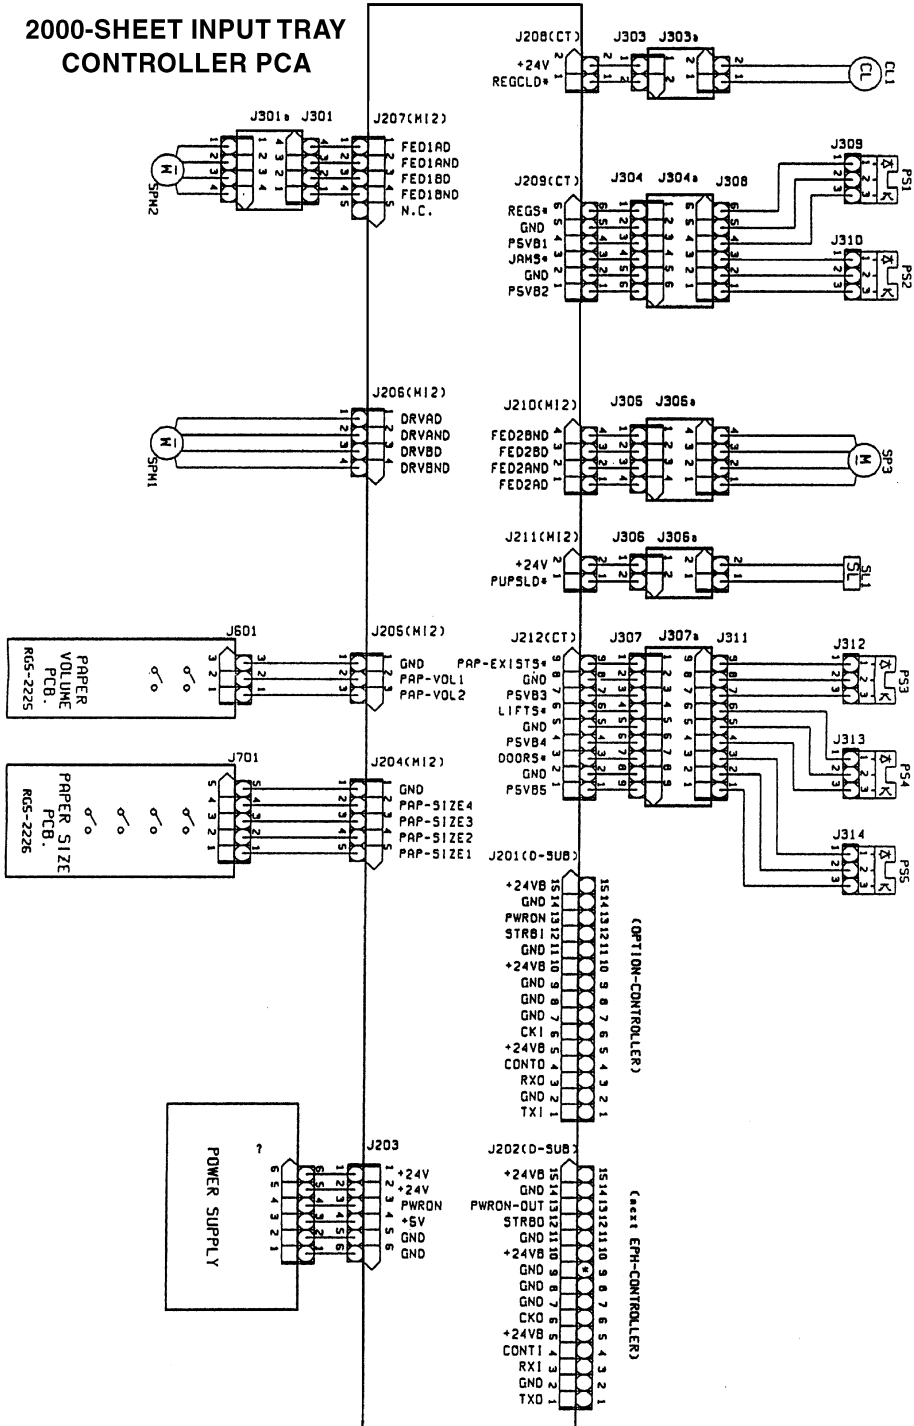

Figure 7-34 2000-sheet Input Tray Main Wiring Diagram
- Figure 7-34, “2000-sheet Input Tray Main Wiring Diagram,” on page 649